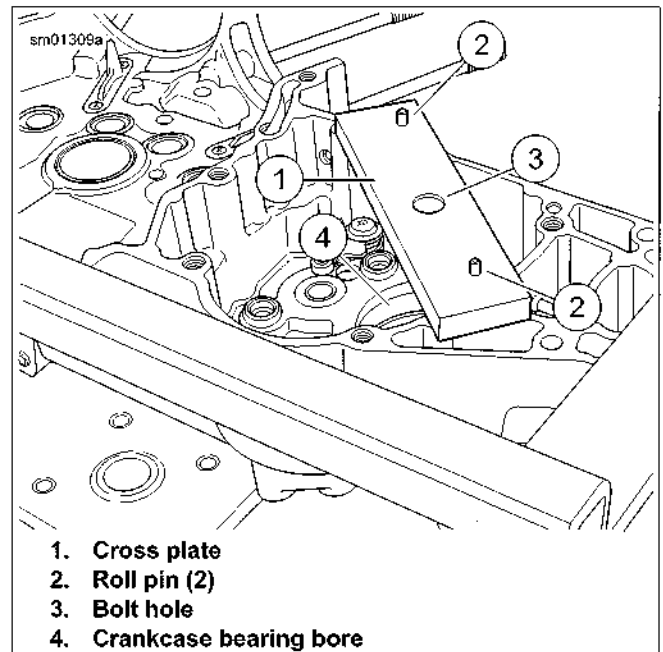

Figure 5-49. Positioning Cross Plate
- See Figure 5-49. Place CROSS PLATE (Part No. B-45847) (1) on right crankcase as shown. Position cross plate so that roll pins (2) fit into crankcase mating screw holes and bolt hole (3) in cross plate is centered over crankcase bearing bore (4).